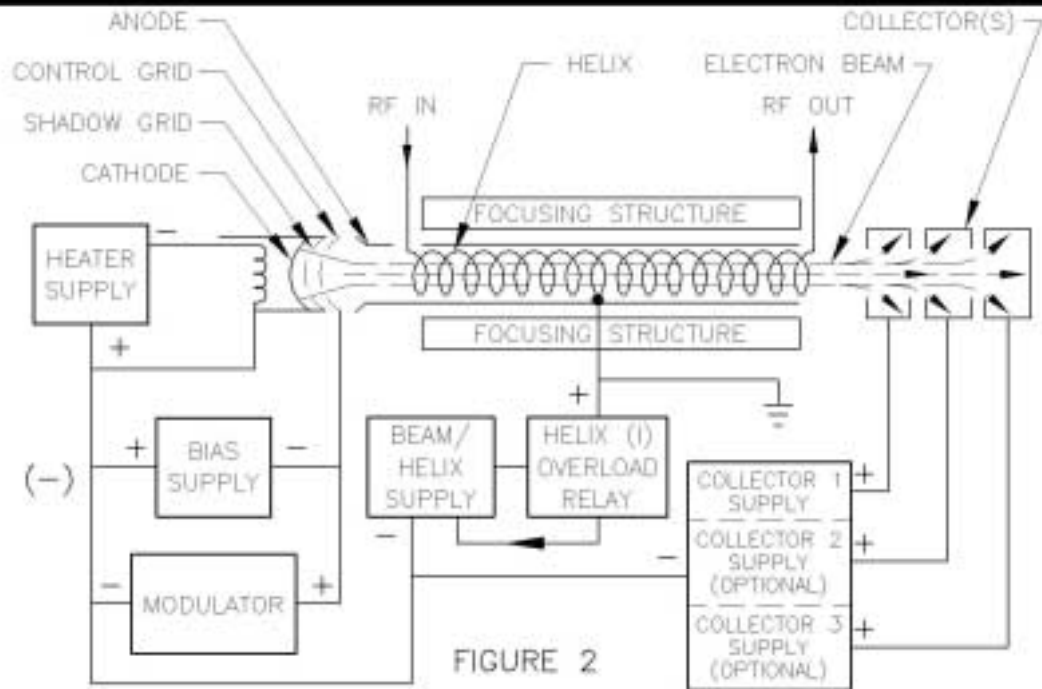

FIGURE 2
- Figure 2 - CW/Pulsed: Control electrode - (grid); single or multiple collector(s).